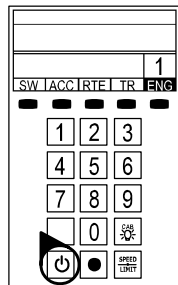

Figure 2. LEGACY start-up
5. **Press the Start Up button on your LEGACY CAB-2 Remote, shown in Figure 2. Then, throttle up and move 'em out!** Your engine sound will start up, and the locomotive-specific touch screen buttons will populate the remote. For more information on operating your locomotive with the LEGACY system, please refer to the LEGACY section of this manual. Additional information is also found in the LEGACY System Manual, available online at www.lionel.com.